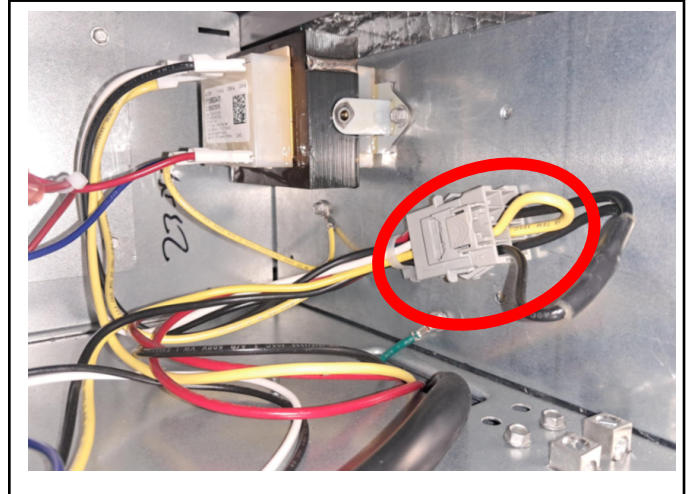

Figure 26. Converting Unit from 240VAC to 115VAC
- 2 - Unplug the 230V factory installed jumper plug harness from the 8-pin gray jack plug and discard. See Figure 26.